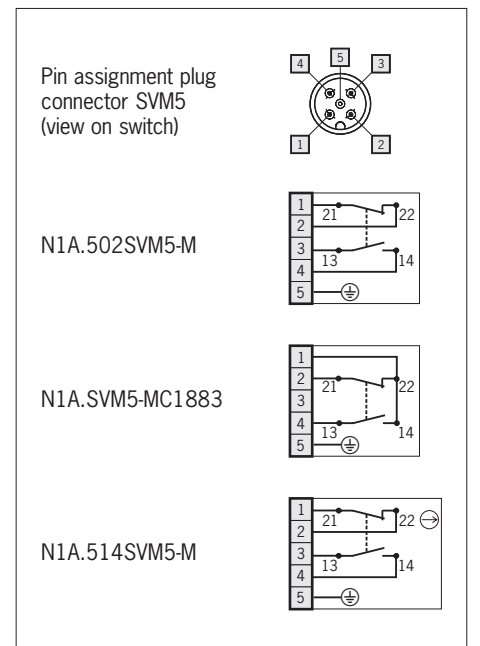

Figure 7: Pin assignment plug connector M12
- ▶ For pin assignment see Figure 7.